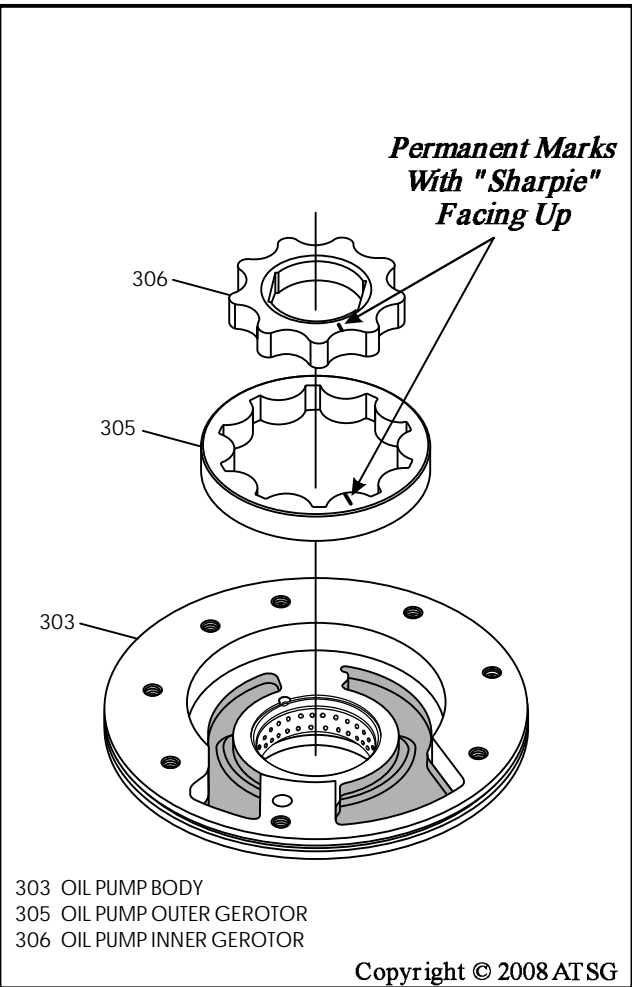

Figure 151
12. Lubricate the inner and outer gerotor with the proper fluid for the vehicle and install them in the oil pump body, as shown in Figure 151.
**Note:** Permanent marks with "Sharpie" previously made on gearset must face up, as shown in Figure 151.